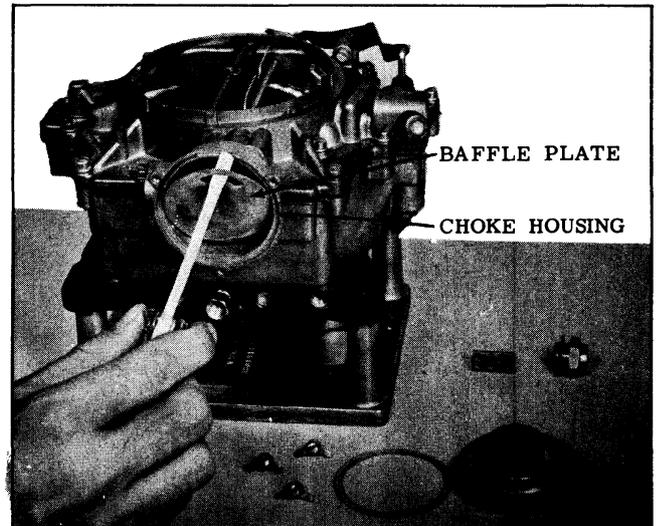

Fig. 8-86 Removing Baffle Plate
3. Carefully lift the baffle plate from the choke housing. (See Fig. 8-86)